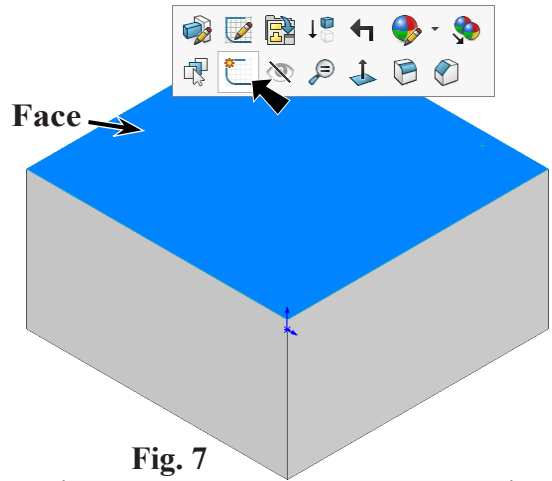

Fig. 7
Step 2. Click the **top face** and click **Sketch**  on the context toolbar, Fig. 7.